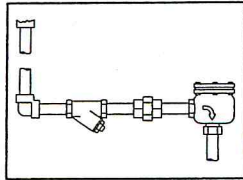

Fig. 4.1 – Ample **UNINSULATED** cooling leg and strainer. If 18" vertical cooling leg is not available, make up the difference with horizontal piping.
- 1.6 Provide uninsulated condensate reservoir and cooling leg between outlet of equipment and trap inlet. See "Recommended Piping Layouts", Fig. 4.1.